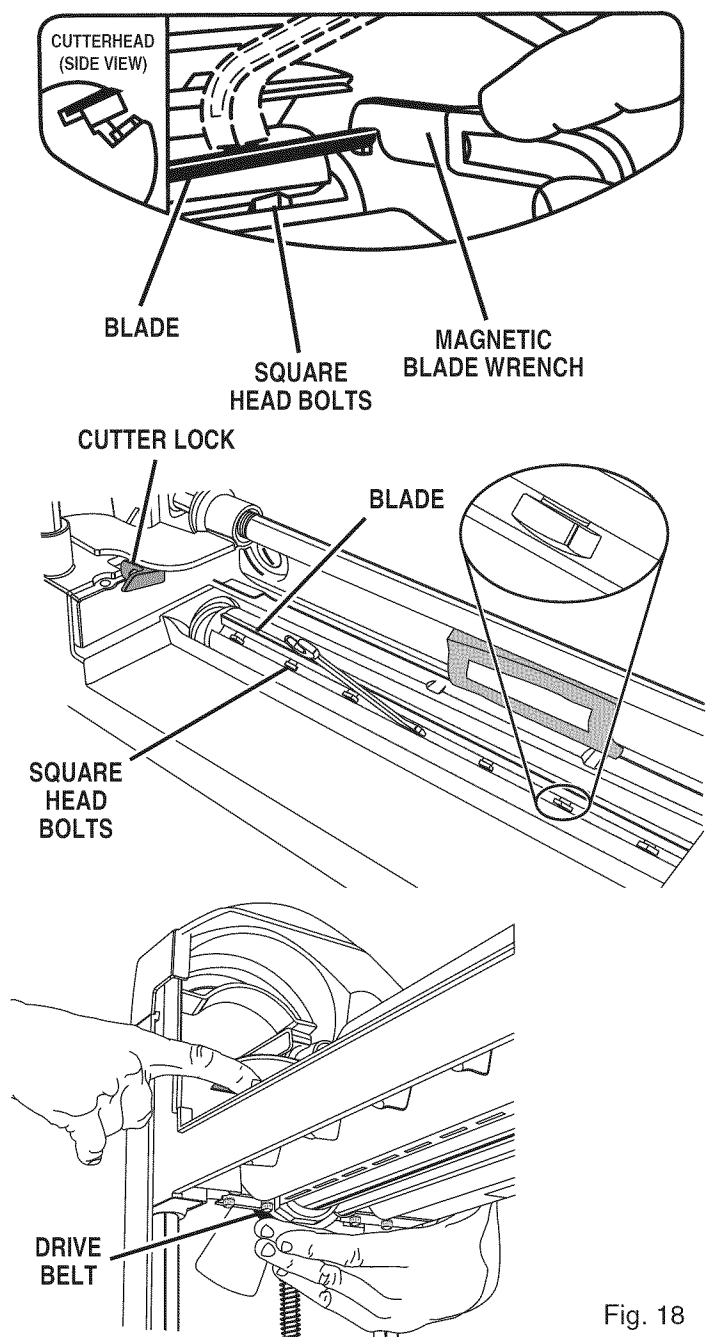

Fig. 18
See Figure 18.
NOTE: Rotating the cutter block is accomplished from beneath the cutter head assembly. Using the planer table as a mirror, touch the threaded spindle where it attaches to the planer table. Carefully move your fingers up until you touch the drive belt. Turn the drive belt with your fingers until the cutter head locks in place (see Figure 18).
- To rotate the cutter head to the next blade, hold down on the red cutter lock and rotate the cutter head 180° as shown in figure 18.